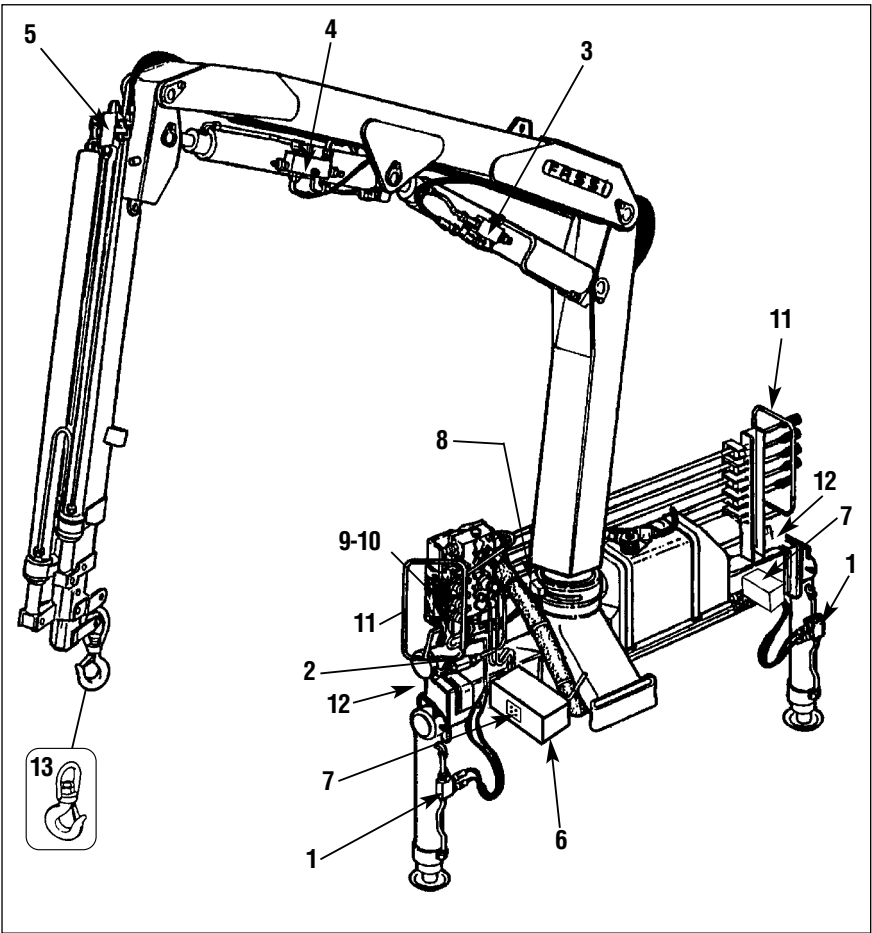

fig. 5
10.1 Version with ground controls for crane and outriggers (fig. 5).